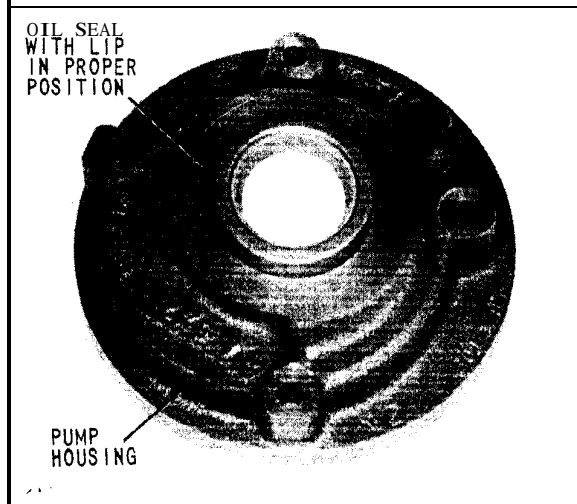

Fig. 92 Installing Oil Seal
6. Place pump housing squarely on arbor press table. Apply a suitable sealant to the outside diameter of seal before installing squarely into bore of housing with seal lip positioned as shown in (Fig. 92). Caution should be observed to insure that too much sealant is not used, that any excess is wiped away after the seal is installed, and that the sealant, does not get on the sealing element.